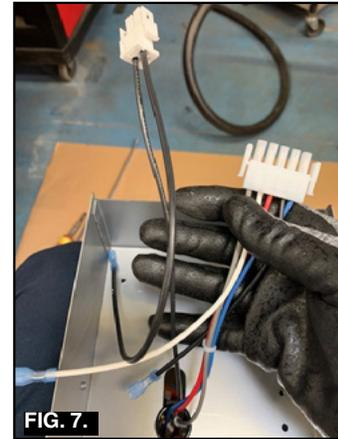

FIG. 7.
3. Bring the Flat 5-pin plug, 2-pin plug and multi-pin connector into the control box. Install the bushing in the hole. Also, bring the Flame current cable into the control box. (Fig. 7).